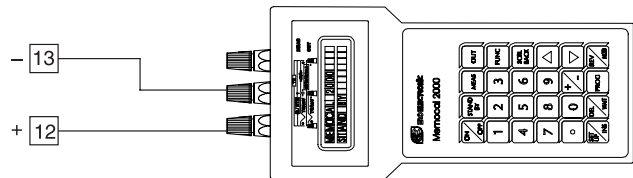

Fig.5
- b) Connect the instrument under test to the calibrator as shown in Fig. 5.
- a) Set the calibrator to 1500 mV (see Fig. 5).